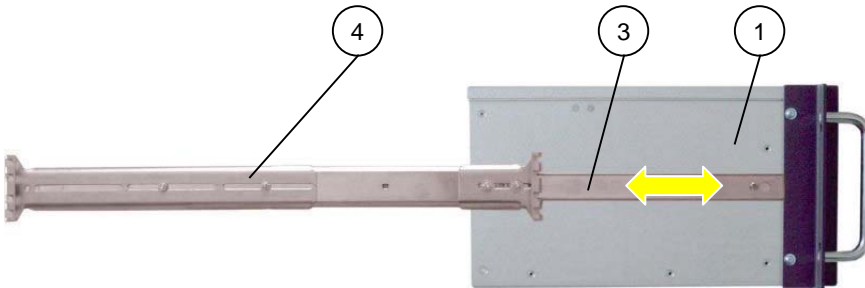

Fig. 27a: Kiss-Plattform with slide rail
2. Using mounting kits and brackets, mount brackets to the outer part of the slide rails (see *fig. 27a, pos. 4*). Screw the back brackets on loosely.
4. Mount the inner part (see *fig. 27a, pos. 3*) of the slide rails to the chassis.